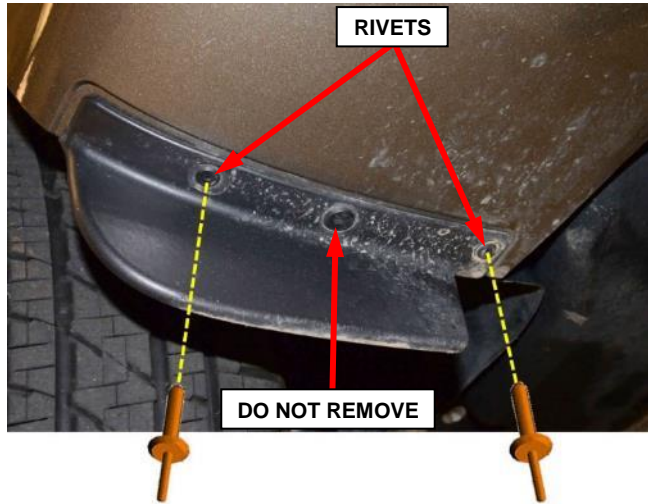

Figure 7 – Front Wheelhouse Rivets
12. **Latitude / Altitude / Limited / Overland:** Remove the **two outer rivets** securing the wheelhouse splash shield to the front fascia on both sides of the vehicle (Figure 7).